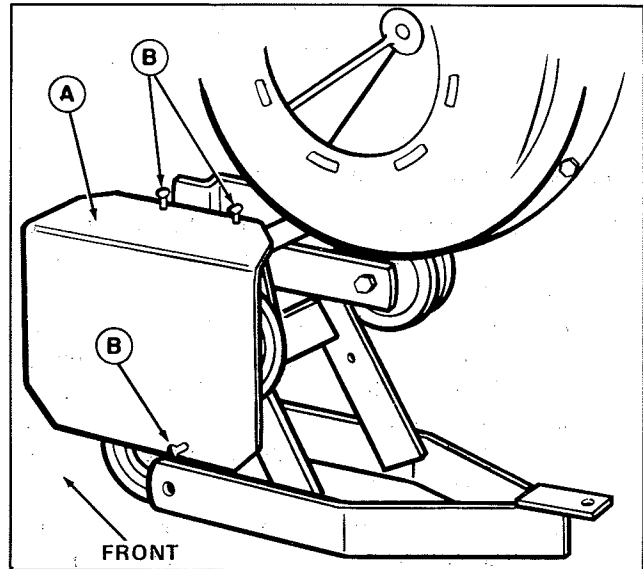
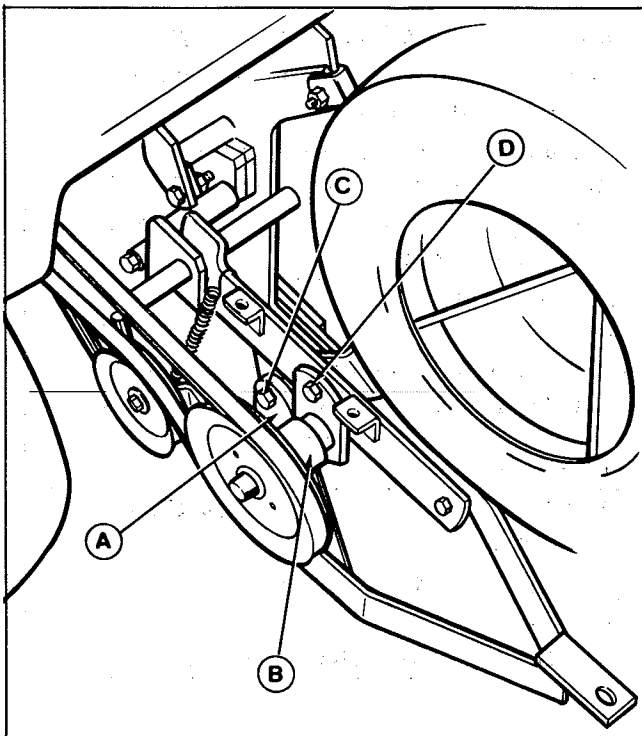
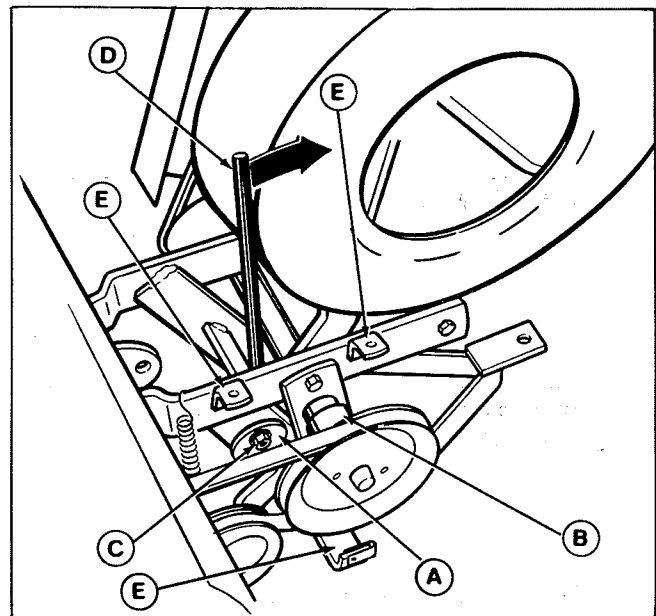

Figure 5. Shield Installed Left-Hand Side
Figure 11. Belt Adjustment
Figure 13. Moving Cross Shaft Back
3. Remove the shield (A, figure 5) by removing the three wing screws (if installed).
5. Install the pulley shield (A, figure 5) to left side as shown in figure 5 with the three wing screws. (The three shield brackets are shown in figure 13).
3. Remove vacuum collector drive belt from tractor PTO pulley. To loosen tension on the belt, it can be slipped off the idler pulley. If necessary, remove the shield (A, figure 5) for clearance. Reinstall the shield and three wing screws to avoid loss.
Early model vacuum collectors do not have the eccentric washer (A, figure 11) which makes belt adjustment possible.
To gain access for adjustment, remove the shield (A, figure 5) by removing the three wing screws. Be sure to reinstall the shield after completing the adjustment.
To increase the measurement, rotate the eccentric washer (A) and cross shaft forward, then tighten the nut (C). Recheck the measurement and readjust if necessary. If adjustment is correct, tighten the two cross shaft screws (D, figure 11).
To increase the measurement, use a crowbar as a lever (figure 13) to rotate cross shaft toward rear. While holding the cross shaft in position, rotate the washer (A) until it meets the cross shaft then tighten the nut (C). Recheck the measurement and readjust if necessary.
When adjustment is correct, tighten the two cross shaft screws (D, figure 11). Reinstall the shield (A, figure 5). The shield brackets are shown in figure 13.
9. The shield and three wing screws can be installed after the vacuum collector has been installed on tractor (see Installation). The shield is shown in figure 5.